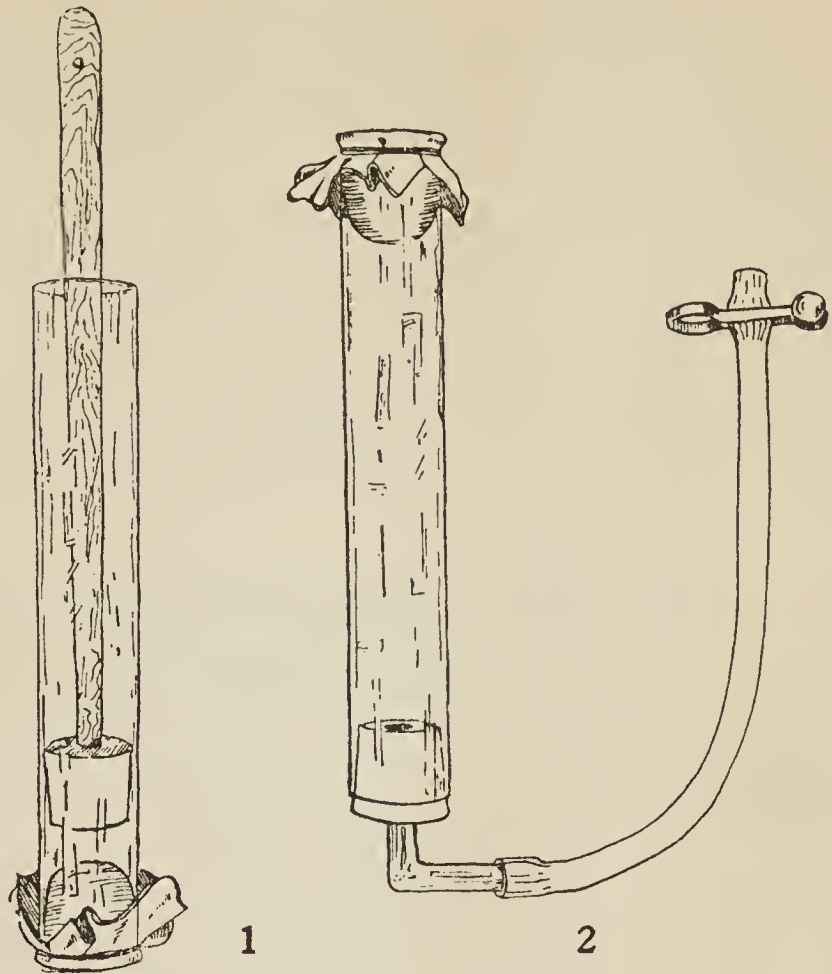

Fig. 124.—The Atmosphere Forces the Rubber Sheet In.
When the plunger is raised in the tube, (1), Fig. 124, the atmospheric pressure on the outside forces the sheet of rubber in.
Illustrate this also by means of (2). Fig. 124. Suck air out of the tube and close the hose with a clip. Does the atmosphere force the rubber in? Turn the rubber in all directions. Is the pressure of the atmosphere equal in all directions.